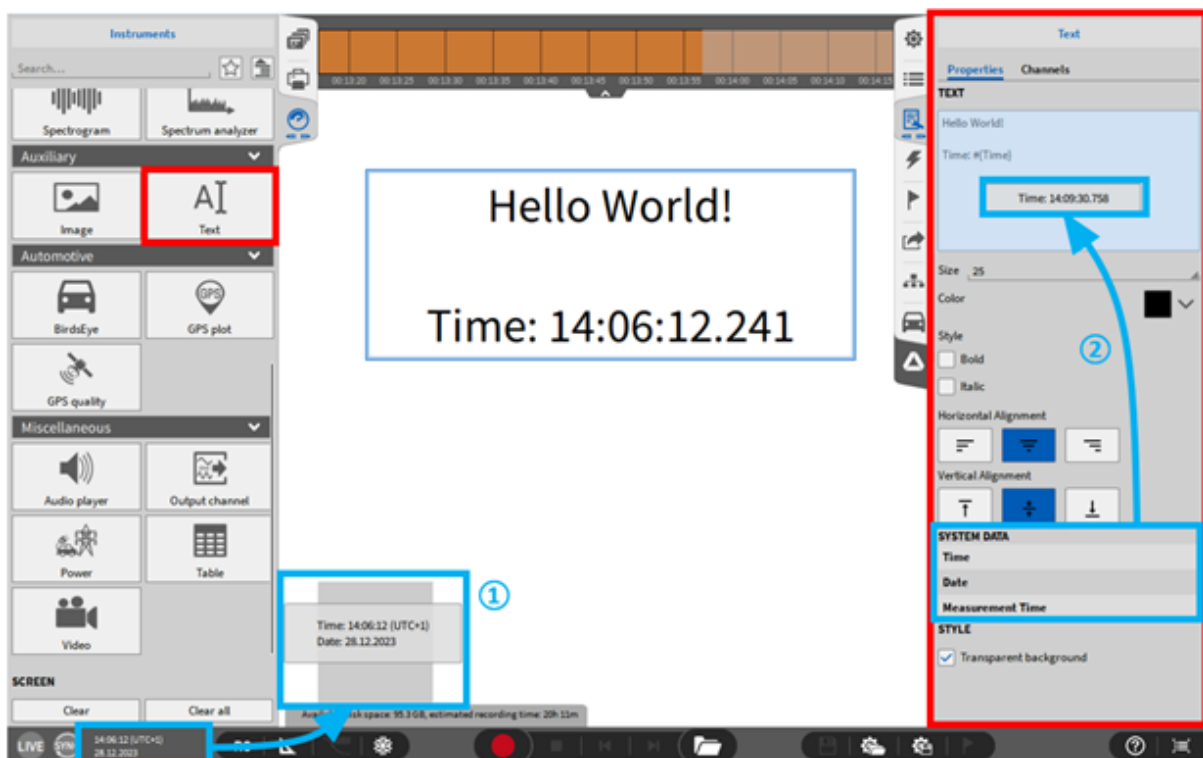

Fig. 8.32: Text instrument – overview
1. The time and date display in the lower left corner can directly be dragged and dropped on the measurement screen (see ① in Fig. 8.32). A Textbox will be created automatically with the according time and date.
2. In the instrument properties the time, date and measurement time can again dragged and dropped into the text field (see ② in Fig. 8.32).